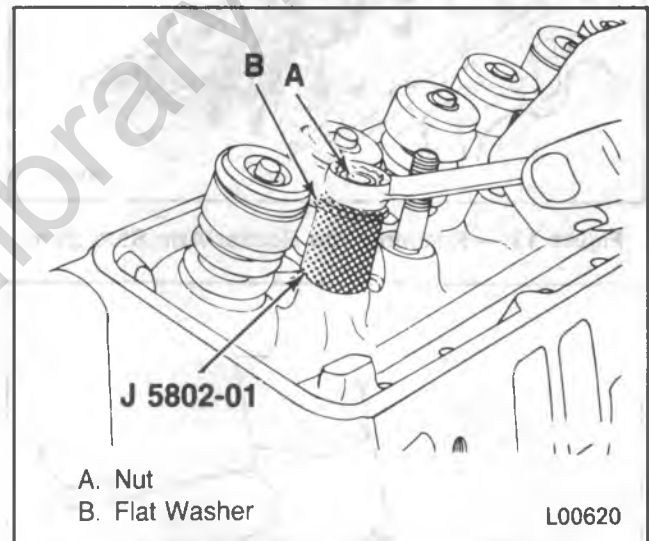

Figure 12 — Removing The Rocker Arm Stud
Remove or Disconnect (Figure 12)
- Turn the nut to remove the stud (figure 12).